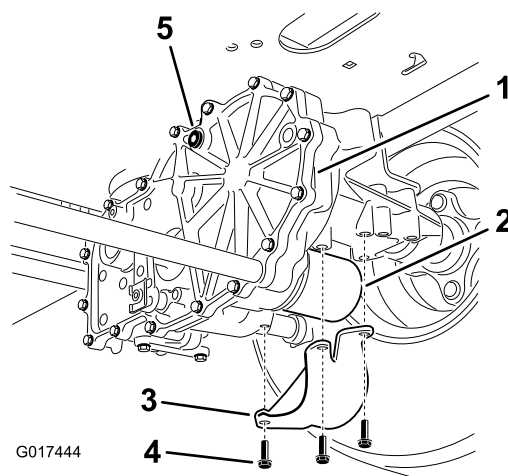

Figure 73
4. Locate the filter and guards on each transaxle-drive system (Figure 73).
5. Remove the 3 screws securing the filter guard and guard (Figure 73).